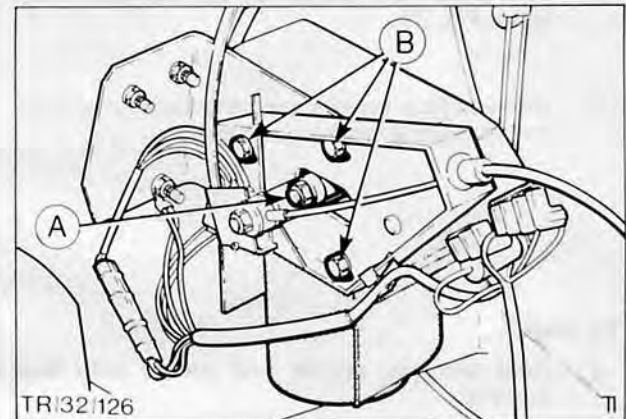

Fig. 26. A – Motor operating arm
4. Remove nut and washer securing motor operating arm to motor and remove arm from motor, Fig. 26.